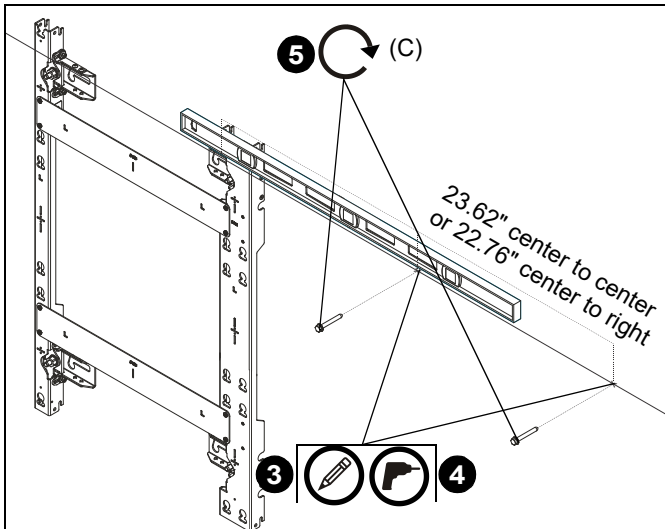

Figure 15
3. Mark mounting hole in top mounting slot along the horizontal line marked in Step 3 of **Installing First Mount** Section. (See Figure 15)
**NOTE:** The mounting holes are 23.62" apart on-center for center (M) and center (M) or 22.76" for center (M) and right (N) uprights. (See Figure 15)
4. Drill pilot hole (see Table 1 for size) at each location marked in Step 3 (See Figure 15)
5. Loosely install lag screws (D) into drilled holes following fastener information located in Table 1. (See Figure 15)